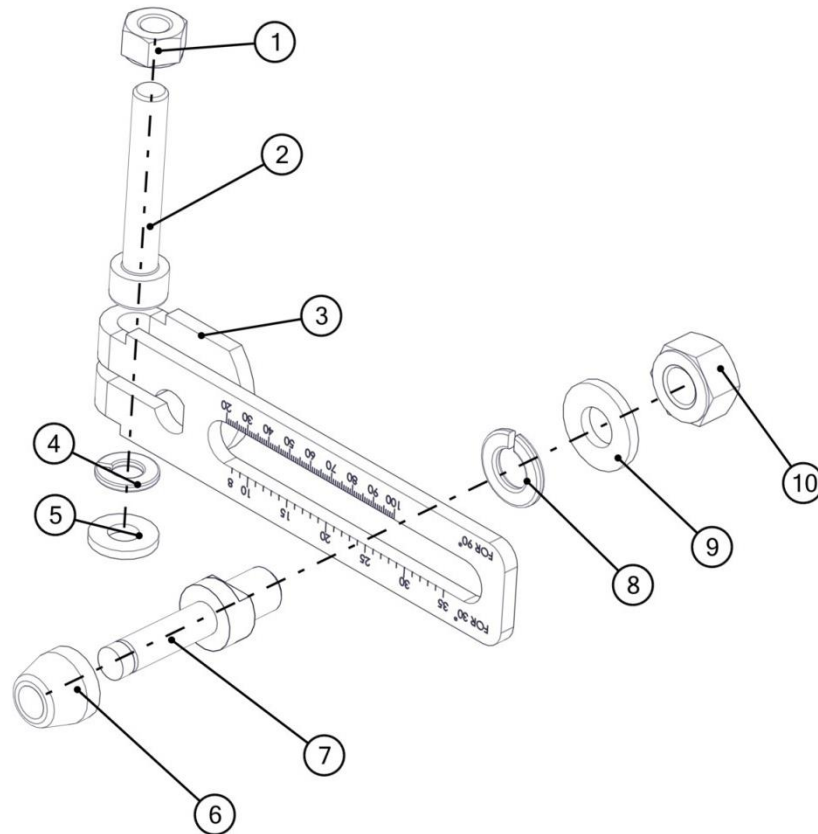

Figure 1: Linear scale assembly
3. Assemble the linear scale assembly as shown in the figure 1.
- Assemble the linear scale assembly as shown in the figure 1.